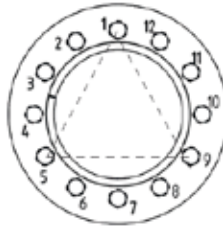

Fig. 5.10.4
- slightly tighten a first group of three screws positioned at about 120° as shown in fig. 5.10.4;